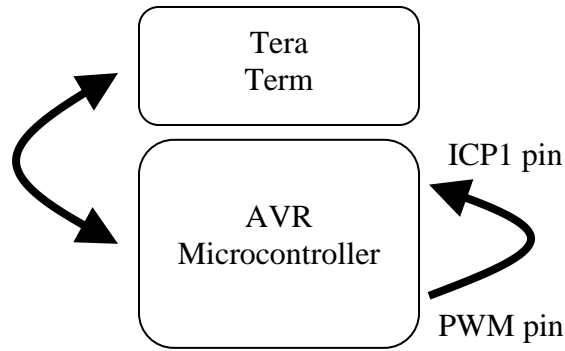

Figure 1
1. It gets an integer from Tera Term and sets it as the pulse width (in clock cycles) of a wave generated by the AVR microcontroller (see Figure 1). The frequency of the wave should be 500 Hz. The received integer should be echoed in Tera Term. You can assume that the integer must be between 10 and 99.